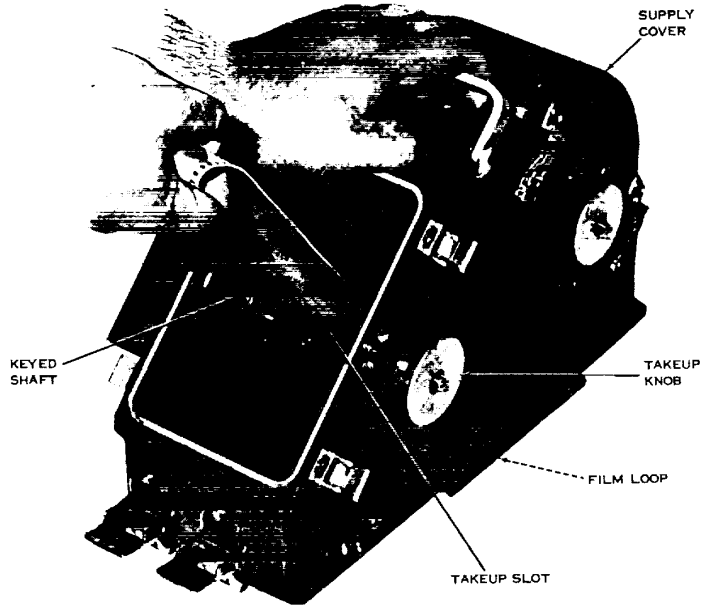

Figure 20. Checking Film Loop, Subdued Light Procedures (7).
l. Place the magazine in an upright position (fig. 20).